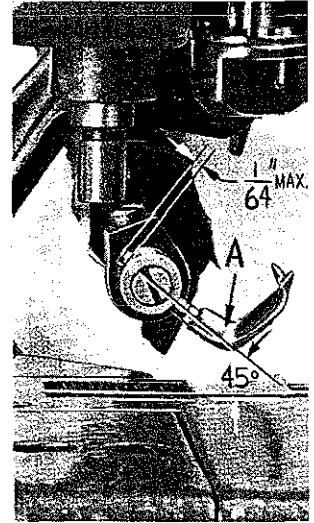

Fig. 6A
**Preliminary Setting:** Position the holder so the hole is approximately  $45^\circ$  to the throat plate (Fig. 6A). Insert the spreader (A) in the holder so its shank extends NOT more than  $\frac{1}{64}$  inch beyond the holder (Fig. 6A).